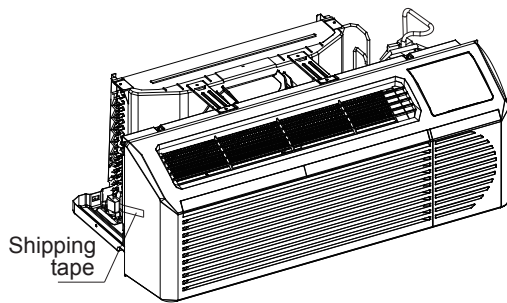

Fig.9-Shipping Tape Location
1. Carefully remove shipping tape from the front panel and vent door. See Fig. 9.